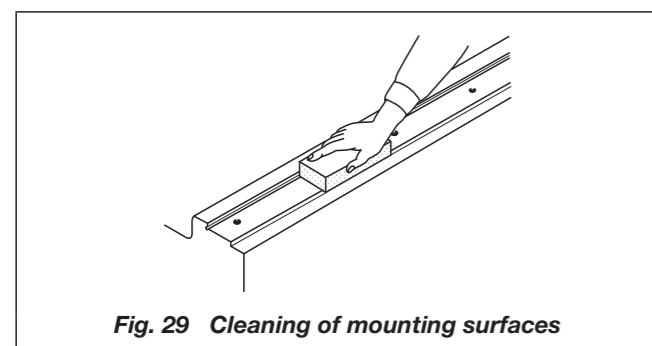

Fig. 29 Cleaning of mounting surfaces
- Remove burrs and blemishes from reference mounting surfaces and mounting surfaces of the machine using an oil-stone, etc., and then wipe the surfaces with clean cloth. (See Fig. 29.)